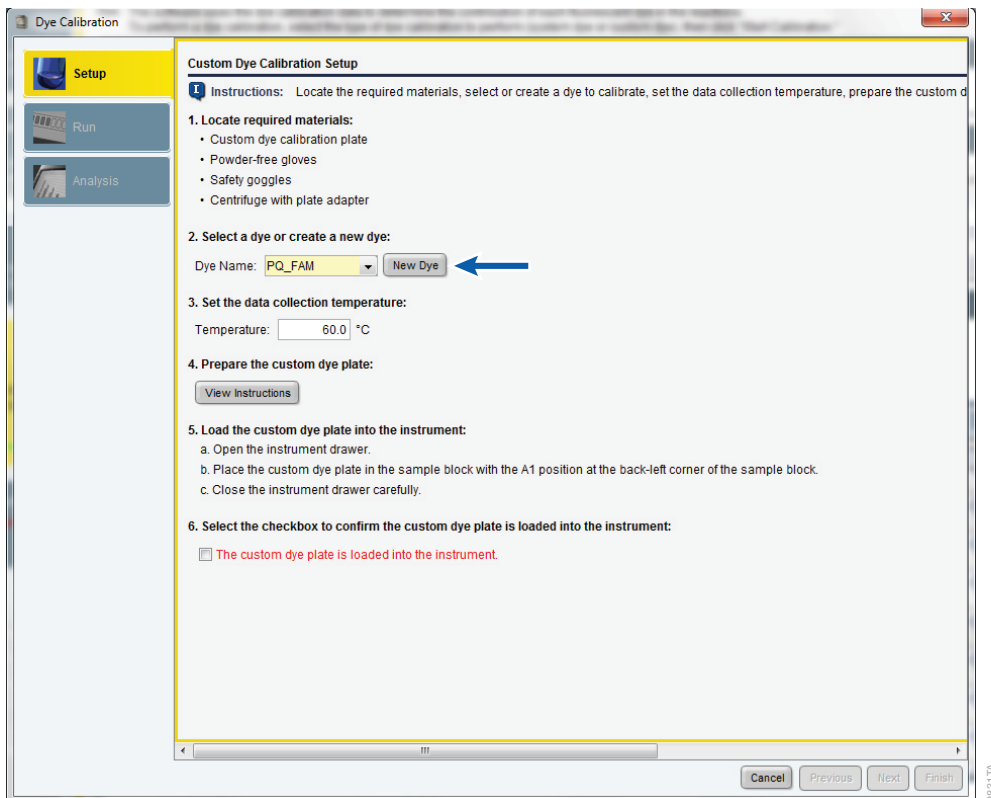

Figure 2. Calibrating a new dye.
7. In the 'Dye Calibration' window that appears, select the **New Dye** button (Figure 2).